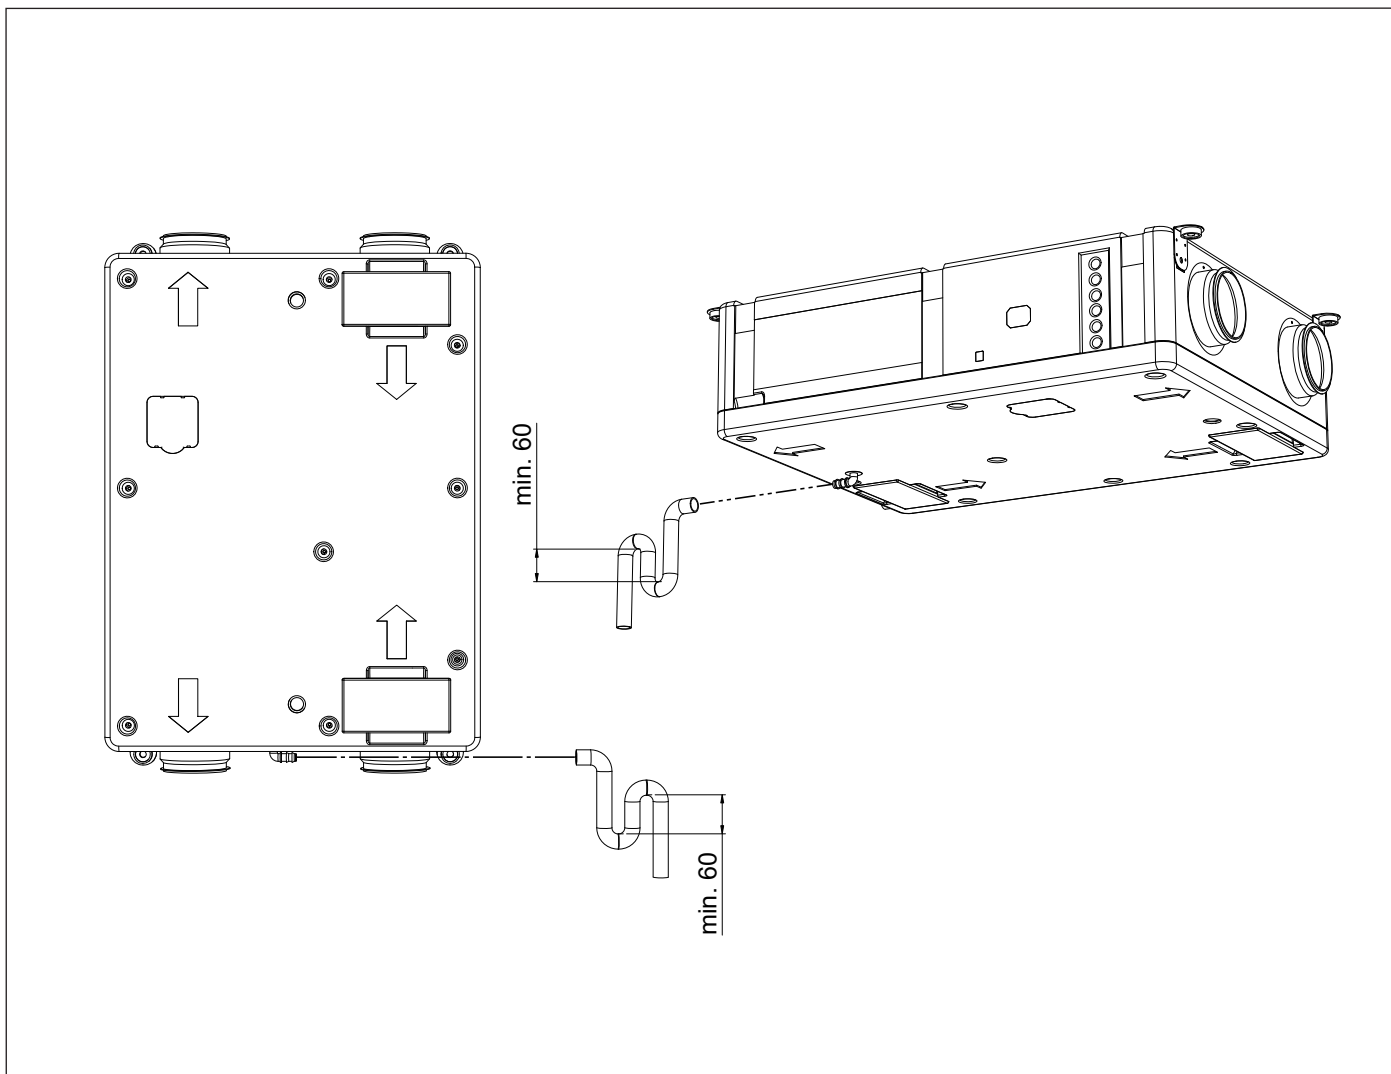

fig. 4
- **Il modulo BHC è dotato di involucro integrale con scarico condensa, che deve essere sifonato come riportato in fig. 4.**
- **The BHC module is equipped with a complete casing with a condensate drain, which must be sifonated as shown in fig. 4.**
- *Be sure that the section is well supported by the 4 hooks (1) shown in the pictures 5 and 6; never stress air ducts or, worse, coil headers while tightening water connections.*